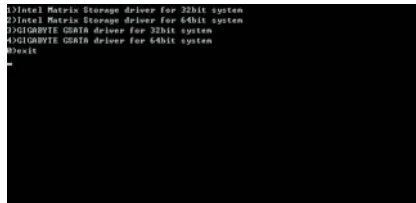

Figure 2
Step 2: When the controller menu (Figure 2) appears, remove the startup disk and insert the blank formatted disk. Select the controller driver by pressing the corresponding letter from the menu. For example, from the menu in Figure 2, select **1) Intel Matrix Storage driver for 32bit system** for Windows 32-bit operating system or **2) Intel Matrix Storage driver for 64bit system** for Windows 64-bit. Your system will then automatically zip and transfer this driver file to the floppy disk. Press <0> to exit when finished.
Use an alternative system and insert the motherboard driver disk. From your optical drive folder, double click the **MENU.exe** file in the **BootDrv** folder (Figure 3). A command prompt window will open similar to that in Figure 2.